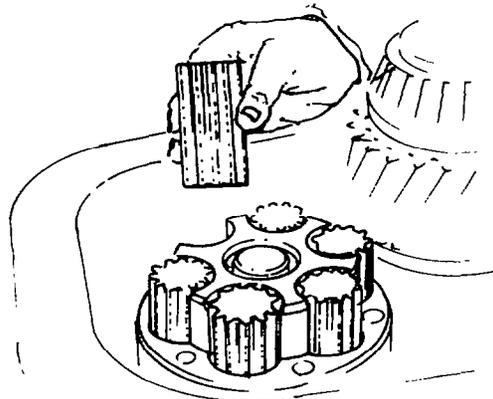

Fig. 252 — Installing Planetary Gears
- o. Align the planet cage retaining bolt holes with the main drive shaft bolt holes, then mesh the planet cage external splines with the main drive shaft internal splines. Install the retaining bolts and torque to 75 - 100 Nm (55 - 75 lb.ft), then install the planet gears (see fig. 252).